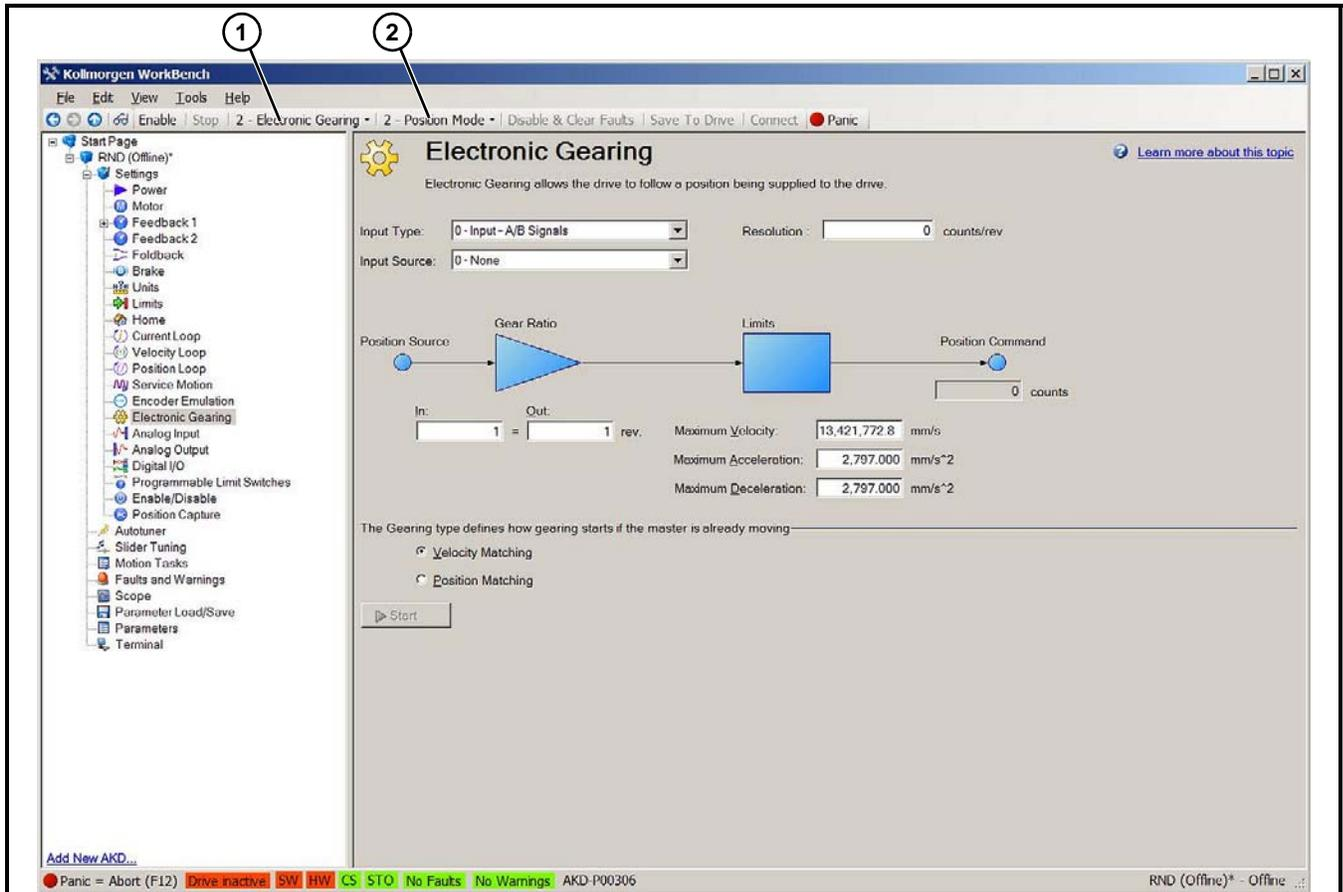

Figure 19
- In the toolbar, select **2 – Electronic Gearing (Figure 19, item 1)** and **2 – Position Mode (Figure 19, item 2)**.